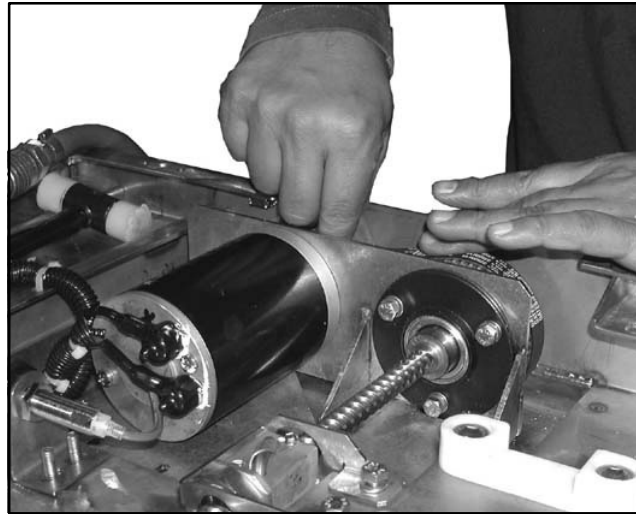

FIGURE 4-17: MOTOR DRIVE PULLEY
f. Refer to **Figure 4-17**. Stow ramp manually by turning large pulley. This will re-align ball screw.
- j. Refer to **Figure 4-17**. Slip belt off large and small pulleys while turning both manually.
- k. Refer to **Figure 4-17**. Stow ramp manually by turning large pulley. This will re-align ball screw.
- g. Refer to **Figure 4-17**. Stow ramp manually by turning large pulley. This will re-align ball screw.
- k. Refer to **Figure 4-17**. Deploy ramp manually by turning large pulley to gain access to carriage assembly and alignment plate assembly.